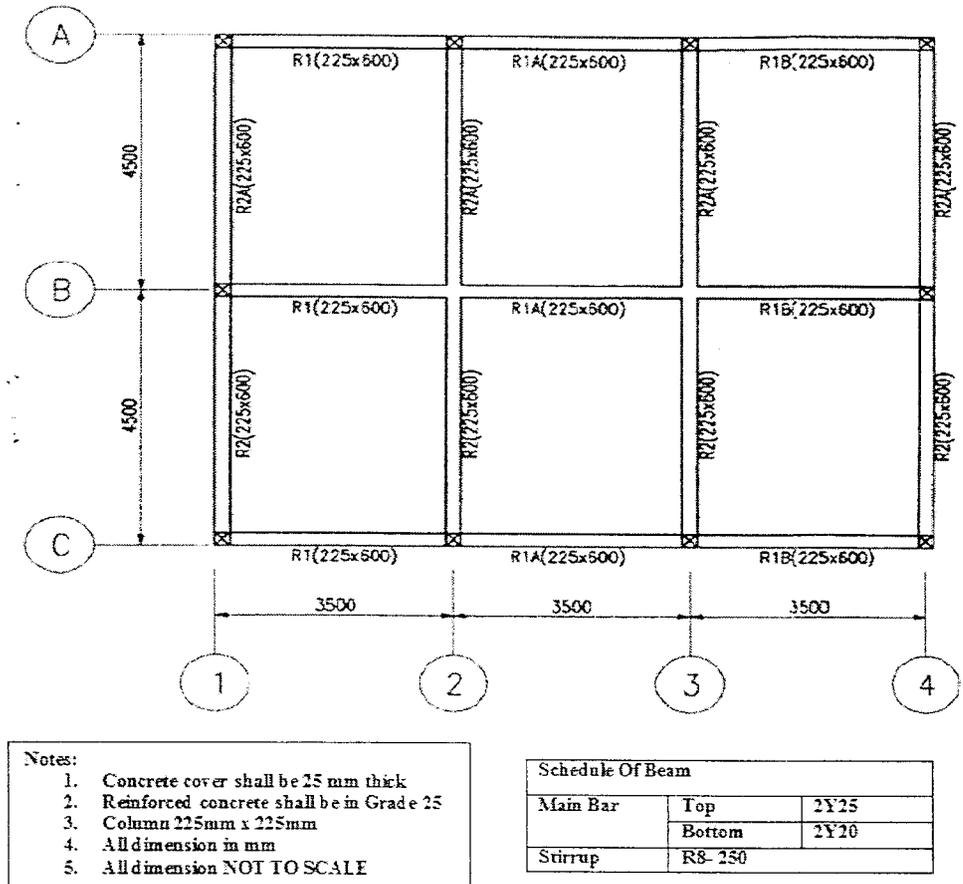

Figure B4 (b)/Rajah B4(b)
- (b) By referring to **Figure B4 (b)**, carry out the quantity measurement Beam R2 for:
- (c) Referring **Figure B4 (c)**, carry out the quantity measurement for floor finishes of :